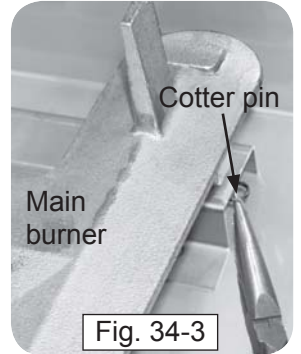

Fig. 34-3
3. Remove the cotter pin from the left or right rear burner anchoring peg by pulling it straight out of the cotter pin hole using fingers or needle-nose pliers (Fig. 34-3).